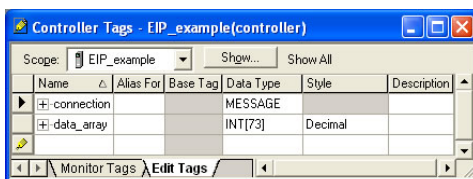

Figure 93: Create New Tags
- b) The "Controller Tags" window appears. Refer to Figure 93.